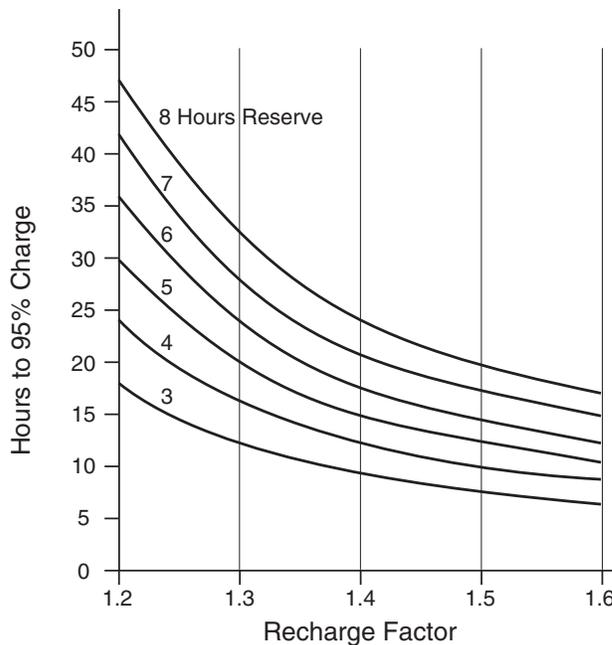

Figure 3-1: Recharge Factor vs. Recharge Time
The battery recharge current is determined by two system considerations: the maximum time the system is required to operate in the absence of ac power (reserve time), and the time allocated to recharge the battery after ac power returns. These two times and Figure 3-1 may be used to determine the recharge factor. This factor, when multiplied by the average busy-hour current, determines the minimum installed rectifier capacity, or:
From Figure 3-1, the recharge factor is 1.38.
2. A two-shelf battery plant is required to provide a load current of 85A, have a 5-hour discharge time (reserve time) and recharge to 95% of battery capacity in 24 hours. Determine the number of rectifiers required for non-redundant and redundant systems. From Figure 3-1, the recharge factor is approximately 1.25.